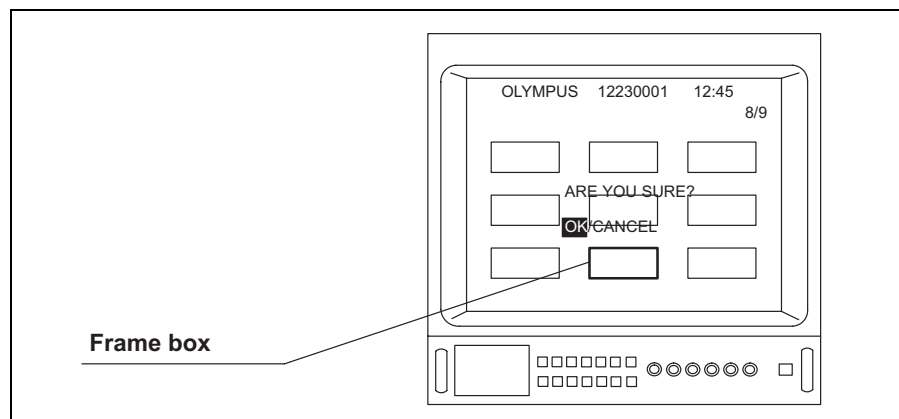

Figure 5.110
4. Depress the menu switches “◀” or “▶”, or the “↑/↓/←/→” key on the keyboard quickly to change from black to white the characters that is “OK” (see Figure 5.110).